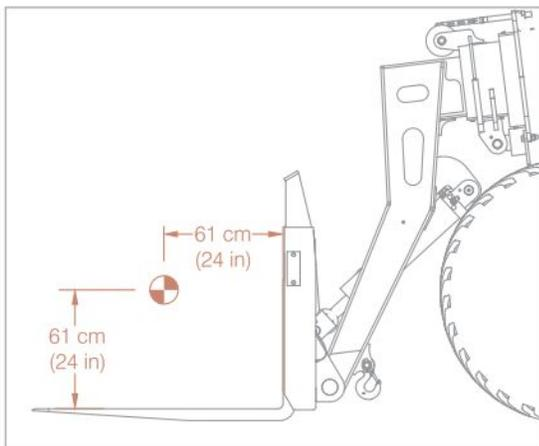

Figure 23 Load Center
- Ensure that the load center for the load is at or within 61 cm (24 in) of forks (refer to Figure 23).
- Ensure that the load center for the load is at or within 61 cm (24 in) of forks (refer to *Figure 23*).